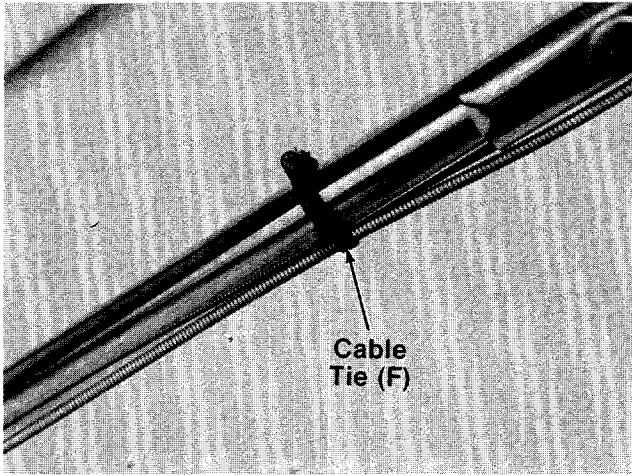

FIGURE 10.
16. Secure throttle control and brake cables to upper and lower handles with cable ties (F). See figure 10.